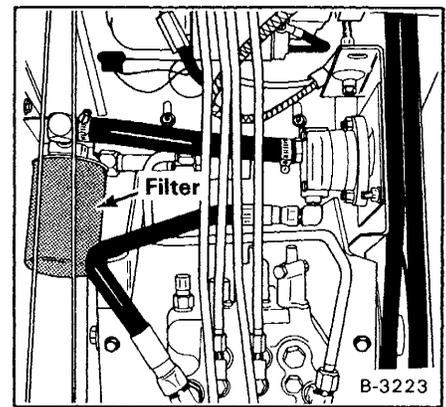

Fig. 1-28a Hydraulic Filter (Current)
On 310 loaders with serial number 13696 and above or 310 loaders with conversion kit on the hydraulic line, the fluid is cleaned by a 33 micron filter which is shown in (Fig. 1-28a).
(1) Remove the hydraulic filter element using a filter wrench (Fig. 1-28) for 310 loaders with serial number 13695 and below. The 310 loader with serial number 13696 and above or 310 loaders with the conversion kit on the hydraulic line refer to (Fig. 1-28a).
(2) Clean the base of the filter mounting base.
(3) Put oil on the rubber gasket of the filter element.
(4) Install the filter element and tighten hand tight.
(5) Start the engine. Check for leaks.